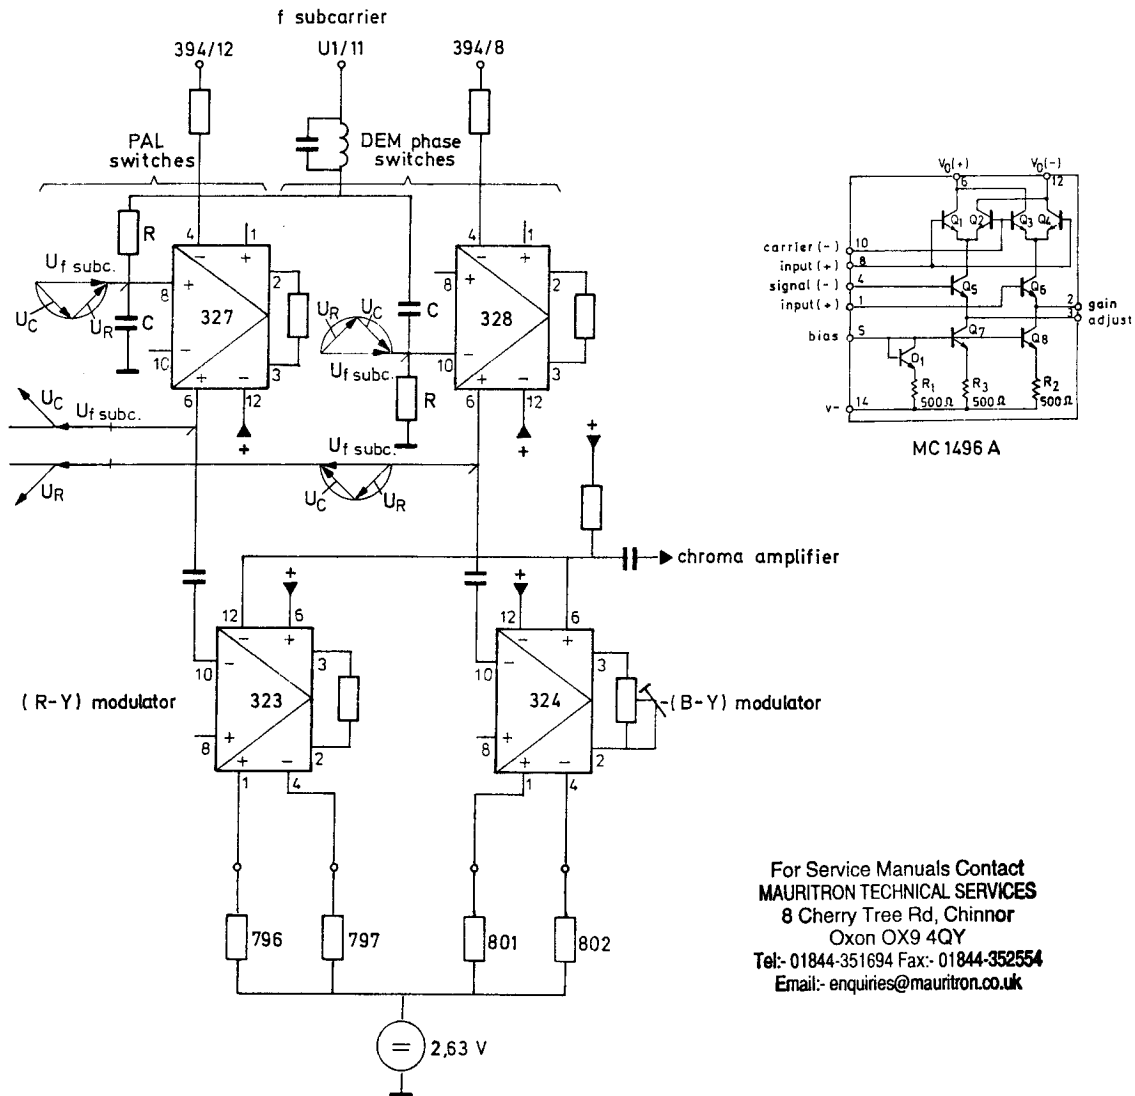

Fig. 18 Colour difference modulators and phase switches of the colour carrier frequencies
2.2.8. Synthesis of the chroma signals, fig. 18
- 2.2.8.1. The **chroma modulator** (fig. 18) consists of 2 output-coupled four quadrant multiplier 323 and 324/U10. The plus and minus signs are pointing out the directions of the input signals with respect to the outputs. The colour carrier frequency (f_{sub}) having passed the phase switches 327, 328 are applied to the chroma modulators 323 and 324, whereby the phase shift of f_{sub} at the two different modulator inputs is 90° . The colour carrier frequencies phase shifted by 90° are multiplied with the colour difference signals (R-Y) and $-(B-Y)$ in the (R-Y) and (B-Y) modulator. The correct amplitude relationship [(R-Y) to (B-Y)] is adjusted by potmeter 811, the residual colour carrier by 800 and 809.
The phase of the outputs 327/6 and 328/6 can be switched to 0° or 180° depending on the digital signals at the inputs 327/4 and 328/4. Low level e.g. at 327/4 cuts off the dc current source Q5 and so the transistors Q1 and Q2 (see fig. 18, detail MC 1496 A), the whole current of Q7, Q8 passes Q6. The output pin 6 obtains the polarity of Q3, and the negative polarity of Q1, if there is a high level at the input 327/4.